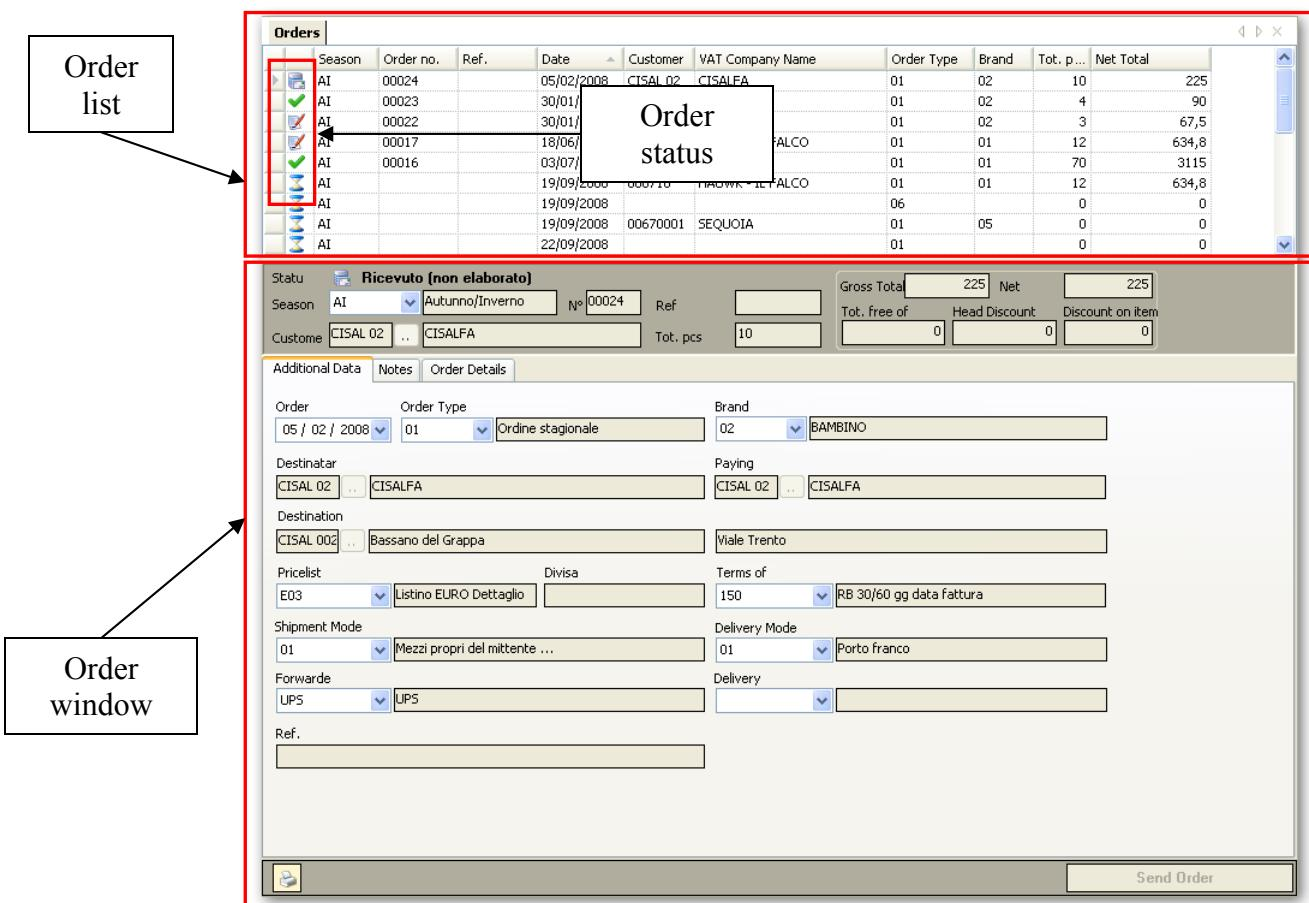

Fig. 8 - Order list window and Order window
In the right section of the screen, the "Order list" window and the "Order window" will be displayed (Fig. 8).
The symbol in the red area indicates the "Order Status" (Fig. 8). It may be:
-  **Transmitted:** the order has been transmitted to the company. The order receipt by the company is confirmed when the status is displayed as "Received", with the attribution of an order number (visible in the third column of the "Order list" window, Fig. 8).
When all order rows are entered, the order can be confirmed with the "final order closure" button (Fig. 13). A confirmed order cannot be changed anymore. It will be automatically sent to the company by clicking on "Send and receive". The order receipt by the company is confirmed when the status turns to "Received", with the attribution of an order number (visible in the third column of the "Order list" window, Fig. 8).